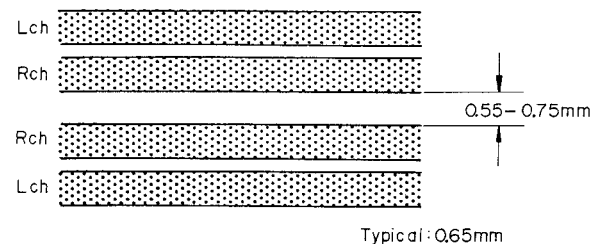

Fig. 4.16
- Immerse the recorded tape in a magnetized developing solution. In turn, check to insure that the recording head tracks across the center are separated with a distance of 0.55 to 0.75 mm (typically 0.65 mm) as illustrated in Fig. 4.16.